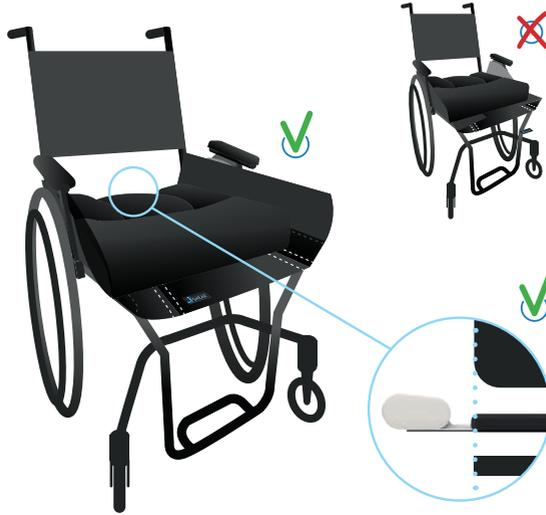

Figure 18
- Place the seat cushion back in the wheelchair, on top of the iShear. Make sure the lateral flaps are positioned between the sides of the wheelchair cushion and the side guards of the wheelchair. The rear end of the wheelchair seat should be equal to the rear end of the iShear mat (see Figure 18).